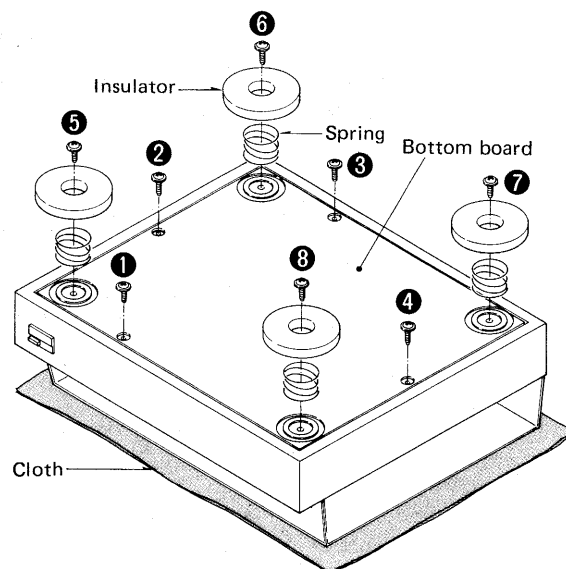

Fig. 1
2. Turn over the unit and remove the 4 setscrews (Fig. 1: ① - ④) of the bottom board.
3. To remove the insulator, remove the 4 setscrews (Fig. 1: ⑤ - ⑧).